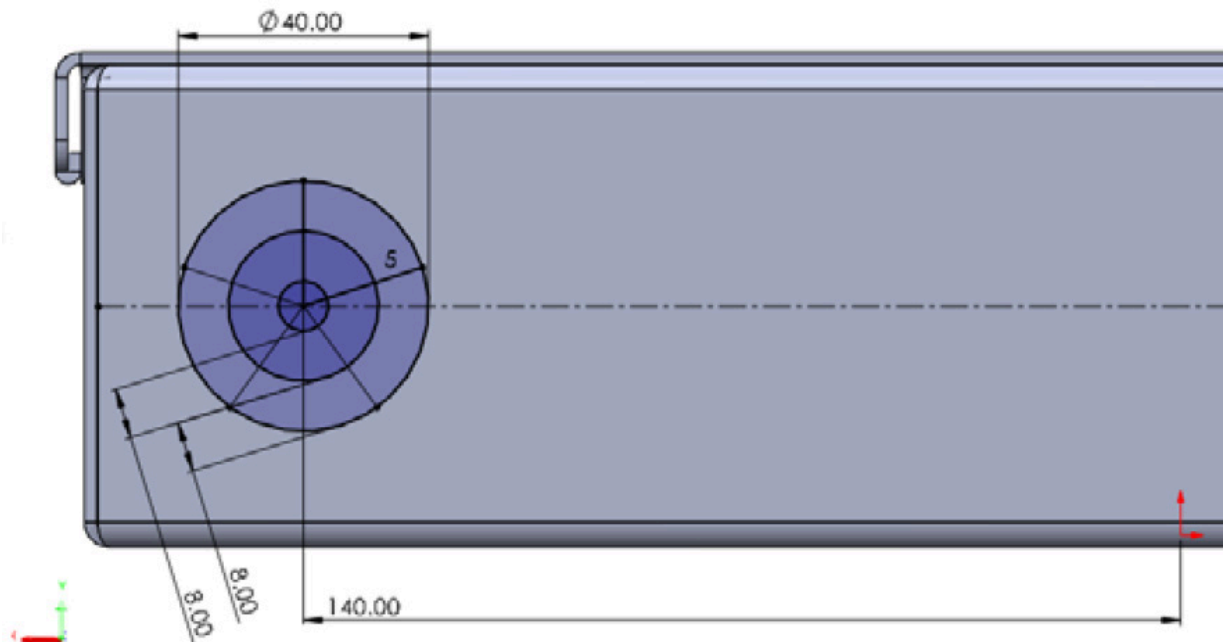

Figure 13.22 – Sketching the Vent details on the rear face
1. All **Vents** require a sketch of the **Vent** layout, so start a sketch on the rear face of the enclosure and draw the profile shown in *Figure 13.22*.